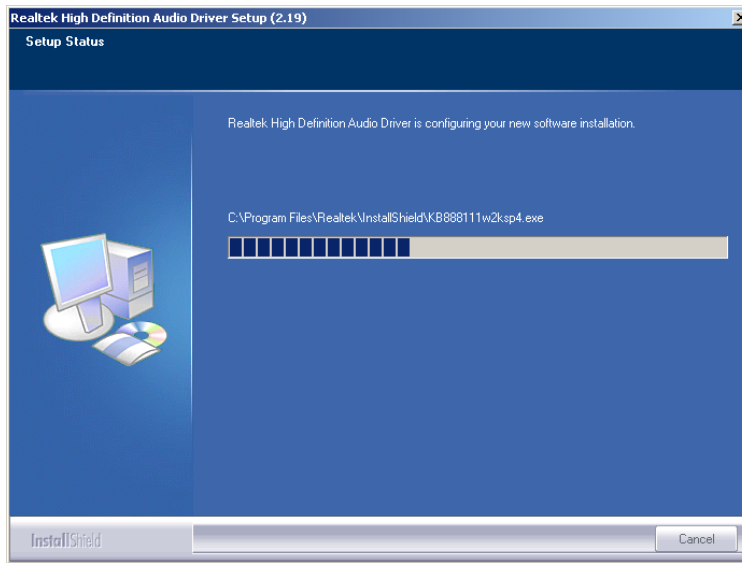

Figure 6-22: Audio Driver Progress Screen
Step 8: InstallShield starts to install the new software as shown in Figure 6-22.